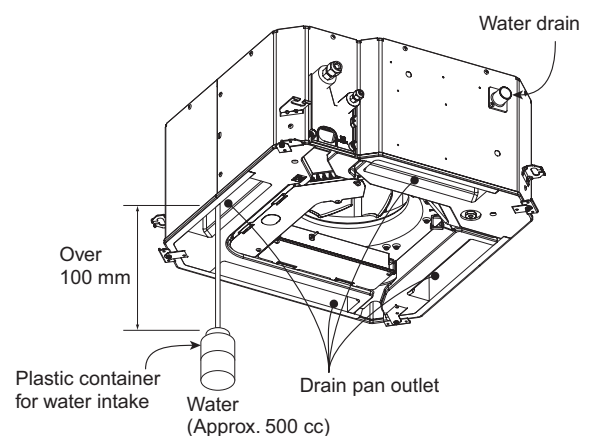

Fig. 2-63
- (1) Connect power to the power terminal board (R, S terminals) inside the electrical component box.
- (2) Slowly pour about 500 cc of water into the drain pan to check drainage. (Fig. 2-63)
- (3) Short the check pin (CHK) on the indoor control board and operate the drain pump. Check the water flow through the transparent drain pipe and see if there is any leakage.
- (4) When the check of drainage is complete, open the check pin (CHK) and remount the tube cover.